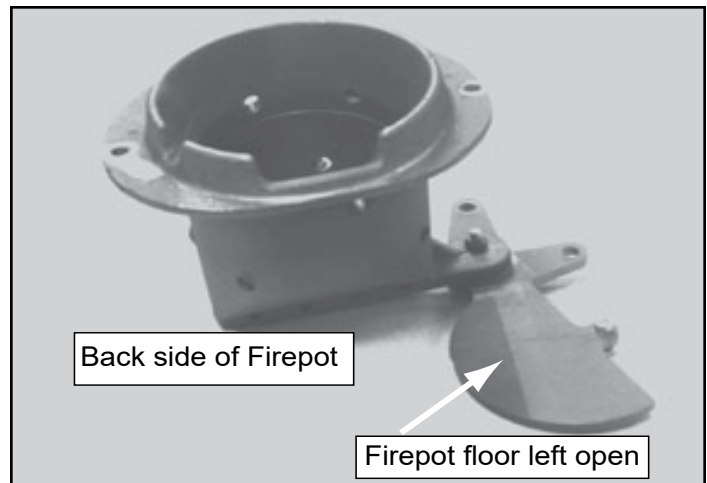

Figure 19.2
- c. The fire pot floor plate must be fully closed when finished (**Figure 19.2**).